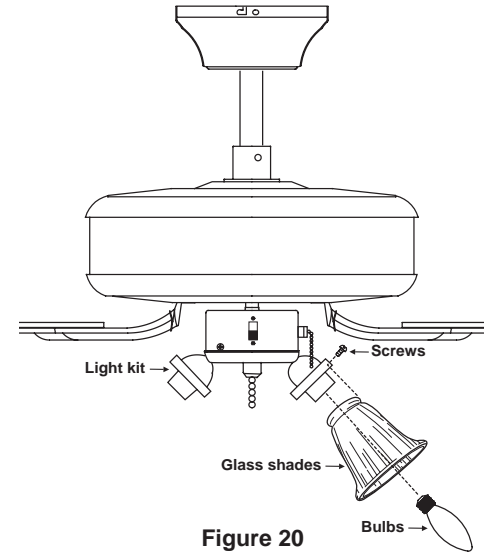

Figure 20
1. Insert the glass shades into the light kit with the thumb screws. (Fig. 20)
2. Install 40W candelabra bulbs (not included). (Fig. 20)